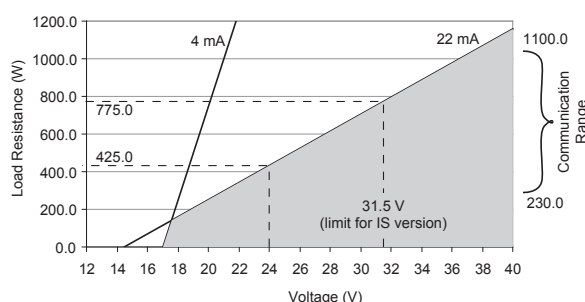

Figure 2-1. Supply voltage/ load diagram
Note: The transmitter contains a switched power supply. The transmitter requires a minimum power voltage in order to work correctly, which is dependant on the load. Please refer to figures 2-1 and 2-2 for the correct power supply.
- D. Signal:** Maximum load 425Ω at 24 VDC. (see figure 2-1)